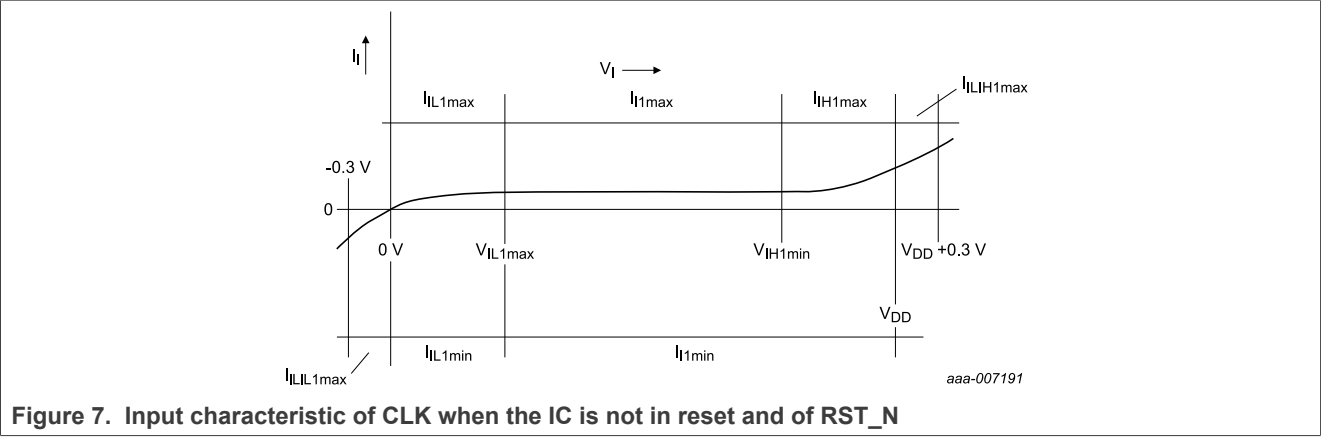

Figure 7. Input characteristic of CLK when the IC is not in reset and of RST\_N
- [1] The active low RST\_N input and outside reset state also the CLK input internally activate a resistive pull-down device to VSS. Accordingly a current is flowing into the pad at voltages above 0 V. Figure 7 shows this input characteristic. In CLOCKSTOP mode the preferred electrical state on CLK is a LOW level, in order to minimize the power consumption.